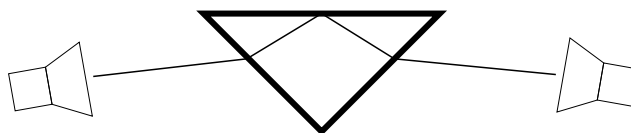

Figure 6: Total internal reflection of microwaves through the wax prism.
- Use one of the wax prisms to demonstrate total internal reflection. Describe in detail how you demonstrated the phenomenon of total internal reflection, see Figure 6.